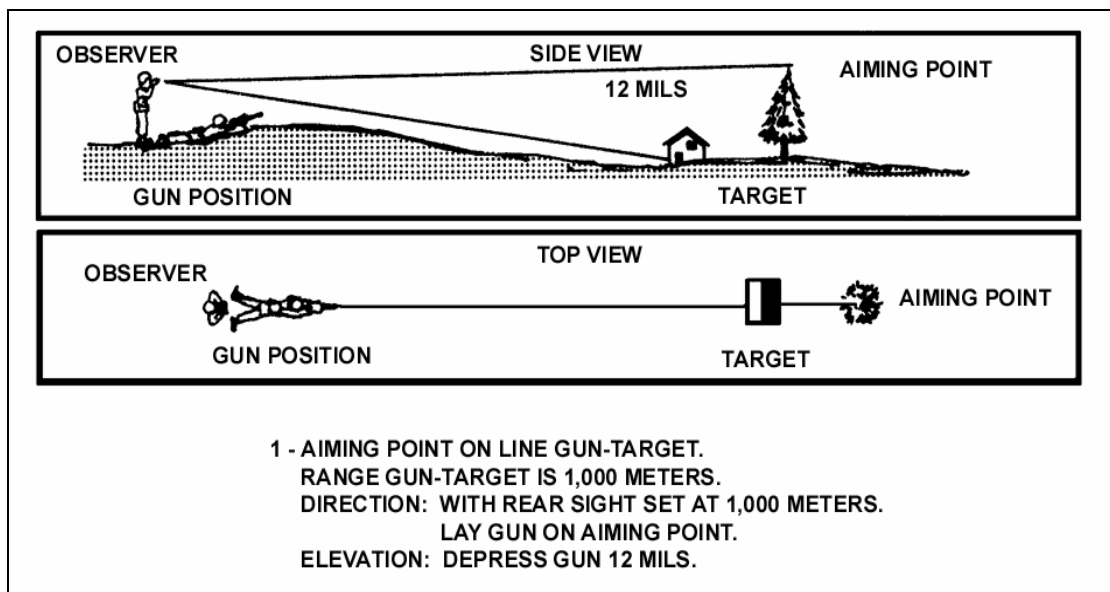

Figure 5-25. Aiming-point method for elevation.
- **Aiming-point method.** The gunner selects an aiming point visible from the MK 19 position; preferably a point at a greater range than the target and at a higher elevation than the target, and the leader finds the range to the target. Using binoculars, the leader measures the vertical angle in mils from the aiming point to the base of the target. The leader has the gunner lay the MK 19 on the aiming point, with the sight set to hit the aiming point, and then directs the gunner to manipulate the gun through the number of mils measured from the aiming point to the target. For example, the range to the target is 1,000 meters (Figure 5-25). The angle read with the binoculars from the aiming point down to the base of the target is 12 mils. The sight should be set at 1,000 meters, with the MK 19 laid on the aiming point, and the muzzle then depressed 12 mils.